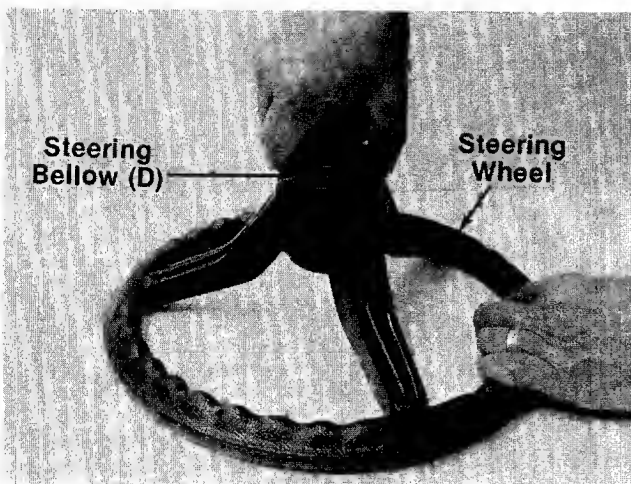

FIGURE 14.
1. Attach steering bellow (D) to the steering wheel as shown in figure 14.